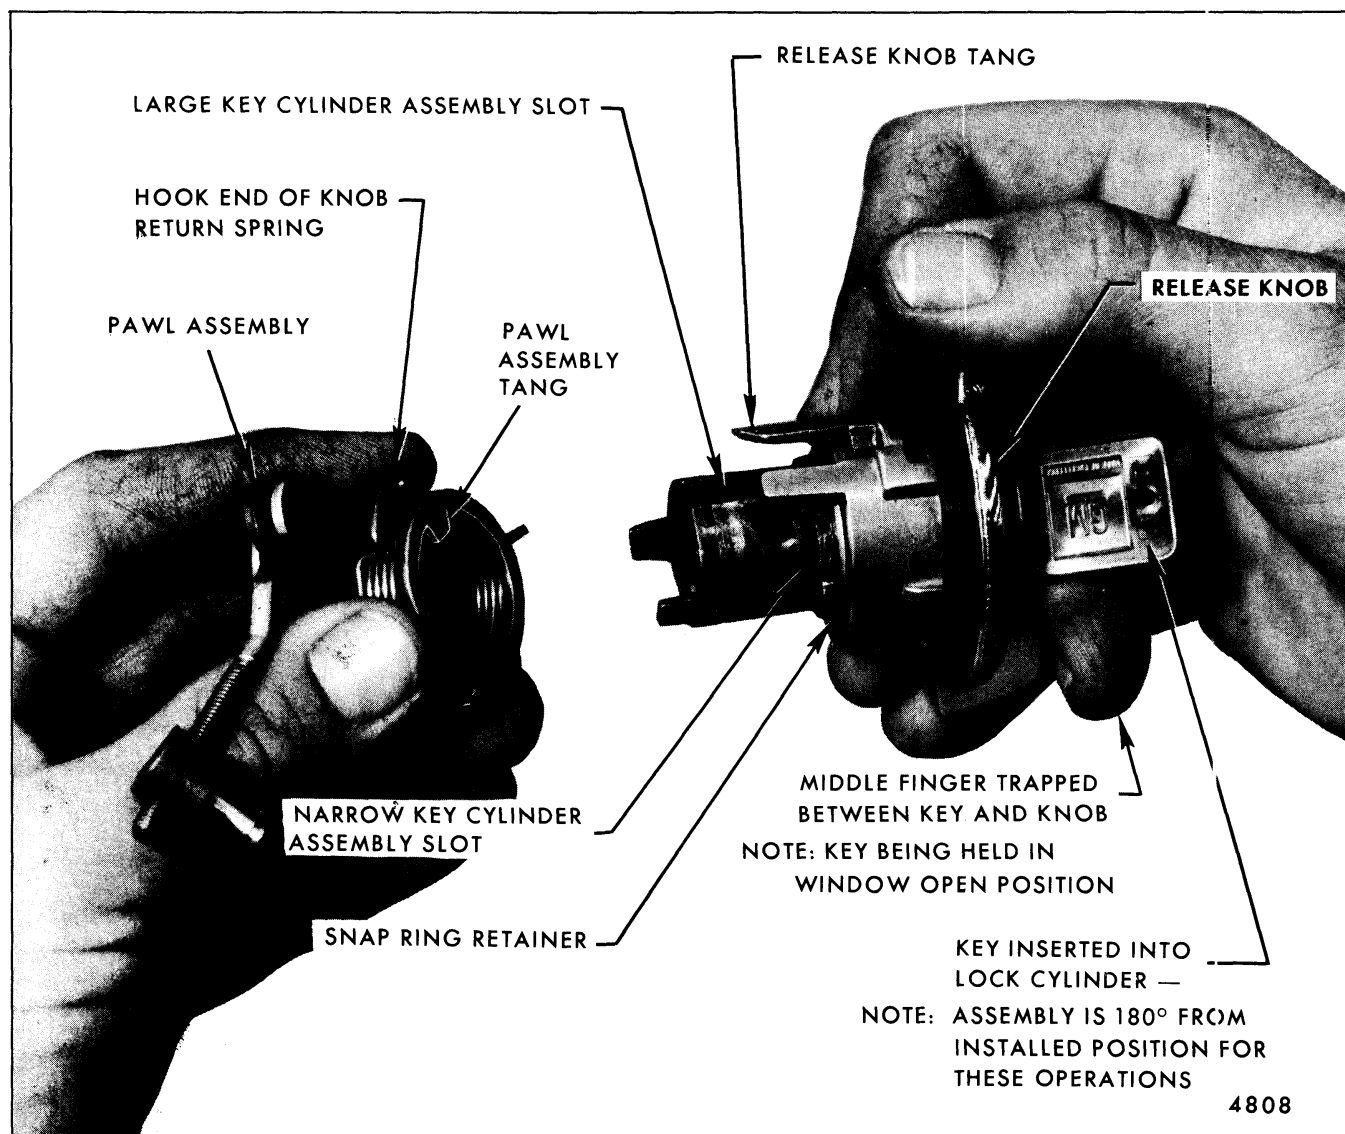

Fig. 7-113-Loading Pawl - Spring Assembly to Key Cylinder
5. Turn key to "window open" position and place middle finger between key and release knob as shown in Figure 7-113.